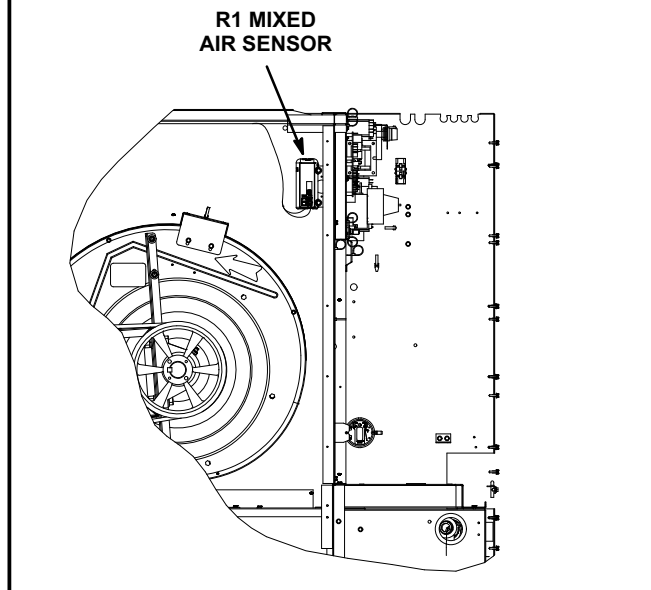

FIGURE 15
- 2- Install sensor on bracket as shown in figure 15.
- 1- Locate two wires labeled R1 in wire bundle in top of blower section. Connect spade connectors on wire to R1 sensor terminals. See figure 15. Make sure to secure wires away from moving parts.